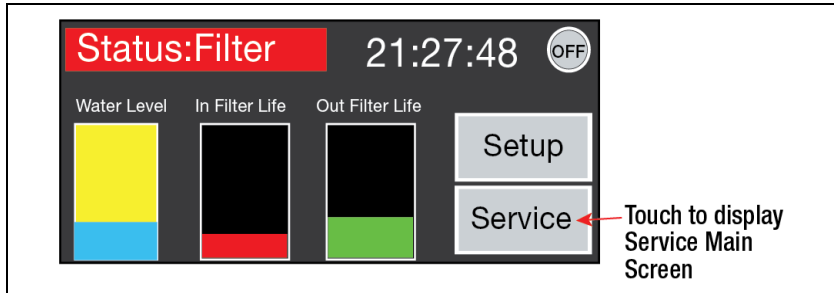

Figure 2.
10. At the Fuel Conditioning Controller front panel, touch the Service button to open the Service Home screen (see Figure 2).